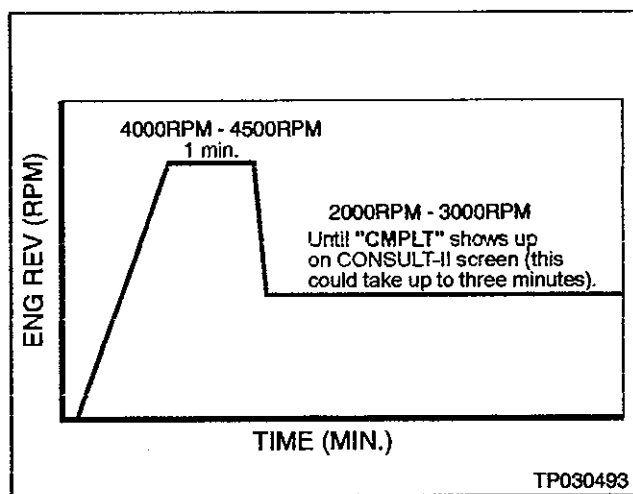

Figure B1.
- H. Increase engine speed to between 4000 RPM and 4500 RPM for one minute under NO load (see Figure B1).